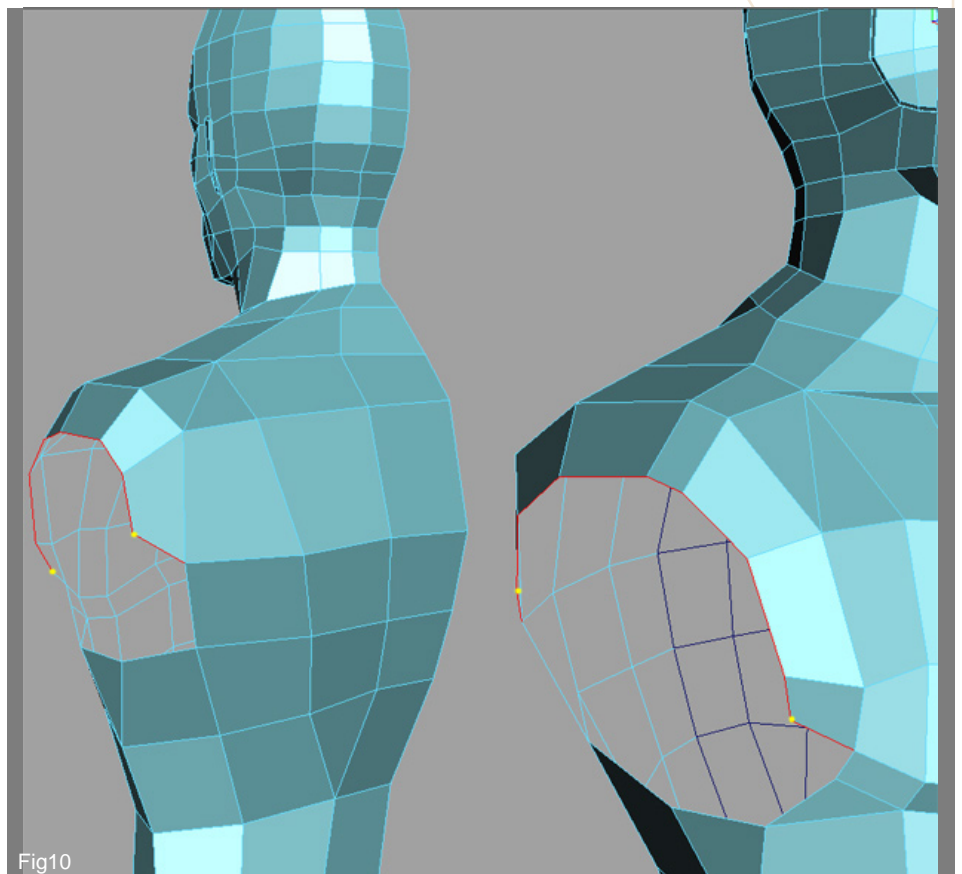

Fig10
10. We can start the arms now. Select the top seven edges and extrude them, as in image Fig10. Then delete the yellow vertices by selecting them and pressing the "Delete" key